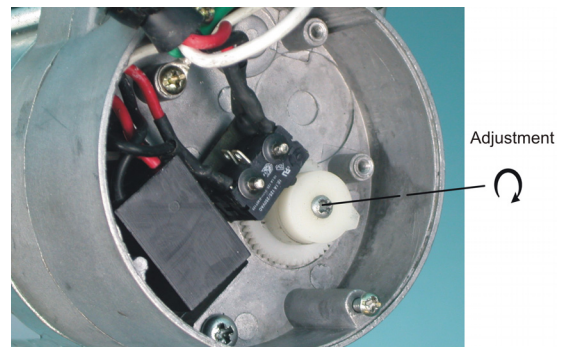

Figure 61. Setting the Actuator
1. Unroll the bulk anti-roost cable. Note: If the cable is unrolled as shown in **Figure 61**, taking 5 loops of the coil with one hand, then changing hands to remove 5 loops as it is unrolled, it will lie flat during installation.